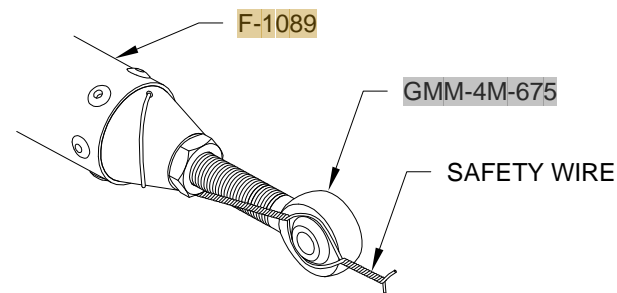

FIGURE 1:
Step 1: Safety wire the forward end of the **F-1089** Elevator Pushrod Assembly which has the **GMM-4M-675** rod end bearing installed as shown in Figure 1. Form a loop that loosely encircles the bearing to the right side of the rod end. This loop will be pinned by the attach bolt.